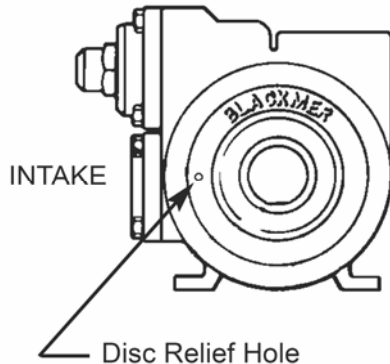

Figure 11 - Disc Relief Hole Location (4" pumps)
Place the disc (71) against the head (20) with the seal cavity inward and the disc relief hole located so that when the head is mounted on the pump with the “Blackmer” name in an upright position, the disc relief hole will be at the pump intake, (see Figure 11). Install and tighten the disc machine screws and lockwashers (71A and 71B). The drive tangs of the seal jacket should protrude through the center hole of the disc.